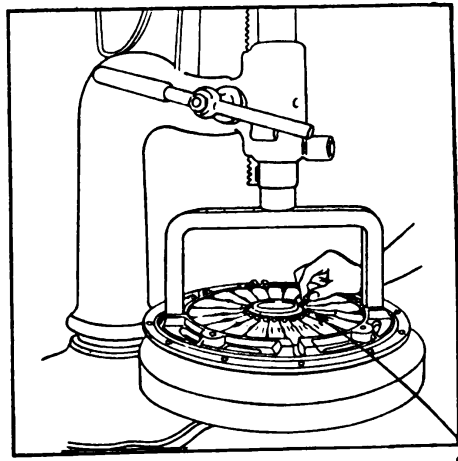

Figure 411
Place one ball (112) in each of the holes in the small end of the levers. Figure 411.